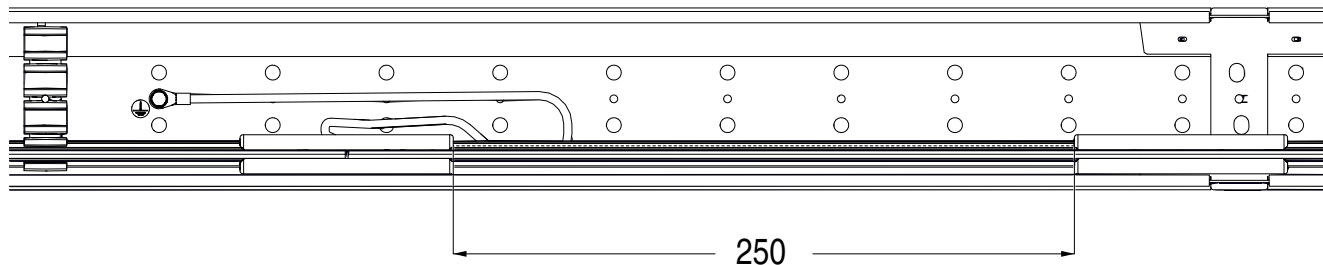

Fig. 56: Distance from connector with protective conductor connection to normal connector
4. Lay the other PE cable end in a loop on the ProShell support profile (see Fig. 56) and attach the ring terminal to the PE cable using the screw elements (1, 2, 4 and 5) on the ProShell support profile (see Fig. 55). For this purpose, an existing bore in the ProShell support profile rail can be used. Laying the PE cable in a loop is therefore important, since the conductor rail, including its connector, is subject to thermal expansion and can therefore lengthen or shorten (see Fig. 56).